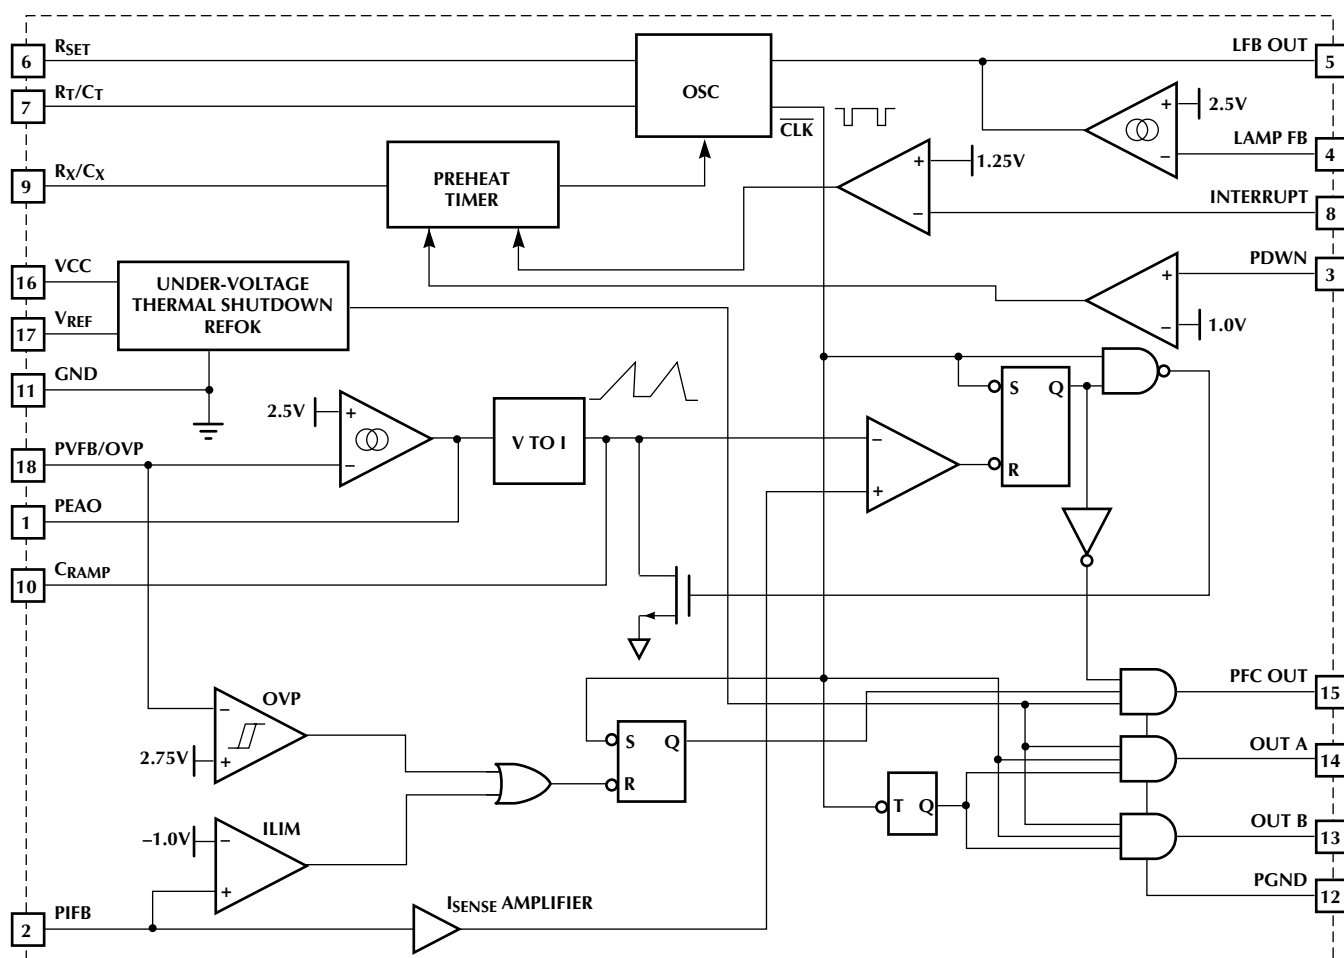

Figure 1. ML4833 Detailed Block Diagram
The ML4833 consists of peak current controlled continuous boost power factor front end section with a flexible ballast control section. Start-up and lamp-out retry timing are controlled by the selection of external timing components, allowing for control of a wide variety of different lamp types. The ballast section controls the lamp power using frequency modulation (FM) with additional programmability provided to adjust the VCO frequency range. This allows for the IC to be used with a variety of different output networks. Figure 1 depicts a detailed block diagram of ML4833.